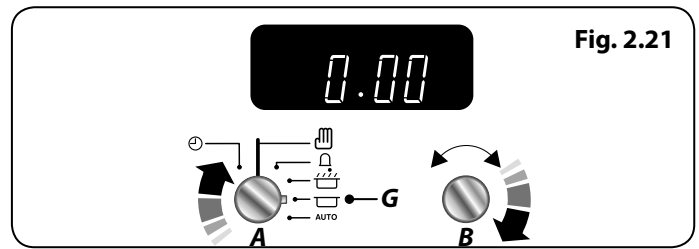

Fig. 2.21
1. Turn the **Timer (A)** knob to the **Stop Time (G)** setting (**Fig. 2.21**).
2. Turn the **Adjusting (B)** knob clockwise, the display will show the current time of day (**Fig. 2.21**).